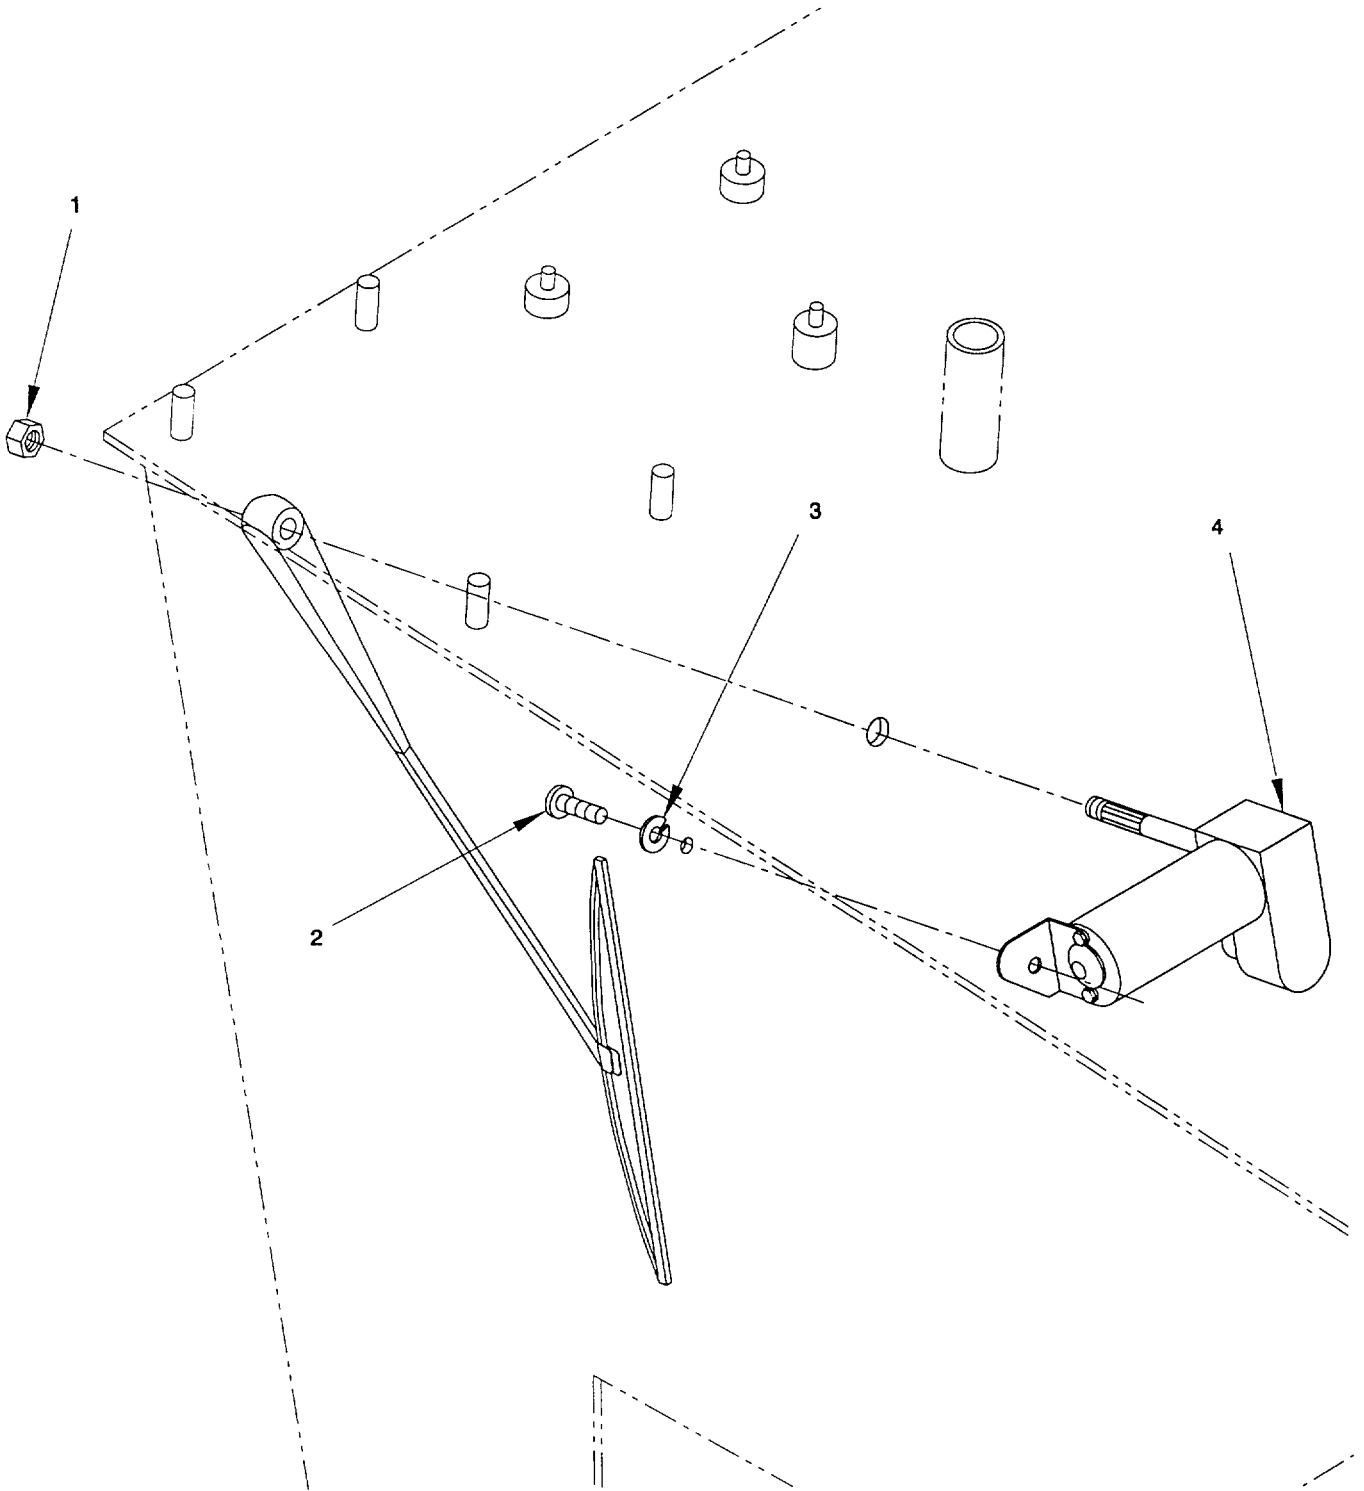

Figure 2-97. Windshield Wiper Motor, Remove/Install
a. *Remove.* (figure 2-97)
- (1) Tag and disconnect electrical wires to windshield wiper motor (4). Refer to Appendix G.
- (2) To remove the windshield wiper motor (4), remove the lock nut (1) from the motor output shaft and remove the pan head screw (2) and lockwasher (3). Remove the windshield wiper motor (4) from the interior or the cab.
b. *Install.* (figure 2-97)
- (1) Apply antiseize compound to pan head screw (2).
- (2) Position new windshield wiper motor (4) from interior of cab. Secure with pan head screw (2), lock washer (3) and lock nut (1).
- (3) Reconnect electrical wires, as tagged, to windshield wiper motor (4). Refer to Appendix G.